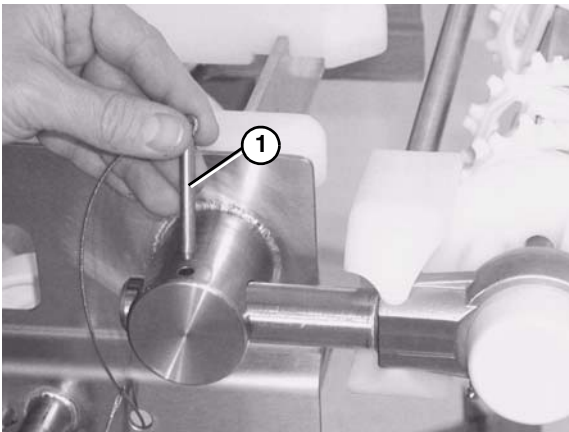

Figure 64
5. Remove the pull pin (**Figure 64**, item 1).
1. Remove the pull pins (**Figure 64**, item 1).